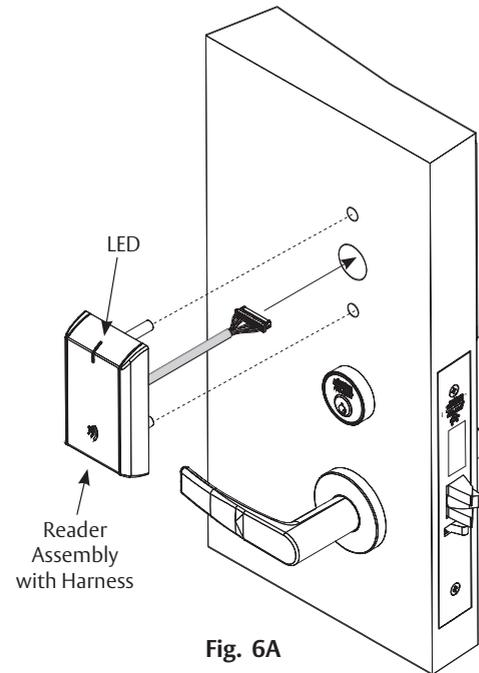

Fig. 6A
- a. Orient reader so LED lens is at top. (Figure 6A)
Do not run wires through bottom flange hole in plate - it will damage wires and controller connector (Figures 6A-6B)